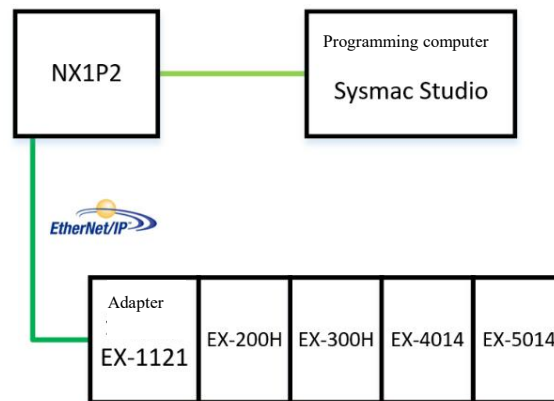

Figure 5-8-24 Communication connection diagram
1. Communication connection diagram, as shown in Figure 5-8-24